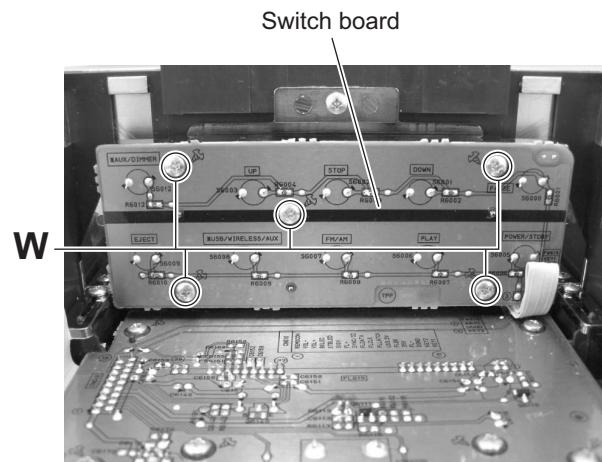

Fig.25
- (2) From the inside of the front panel assembly, remove the five screws **W** attaching the switch board. (See Fig.25.)